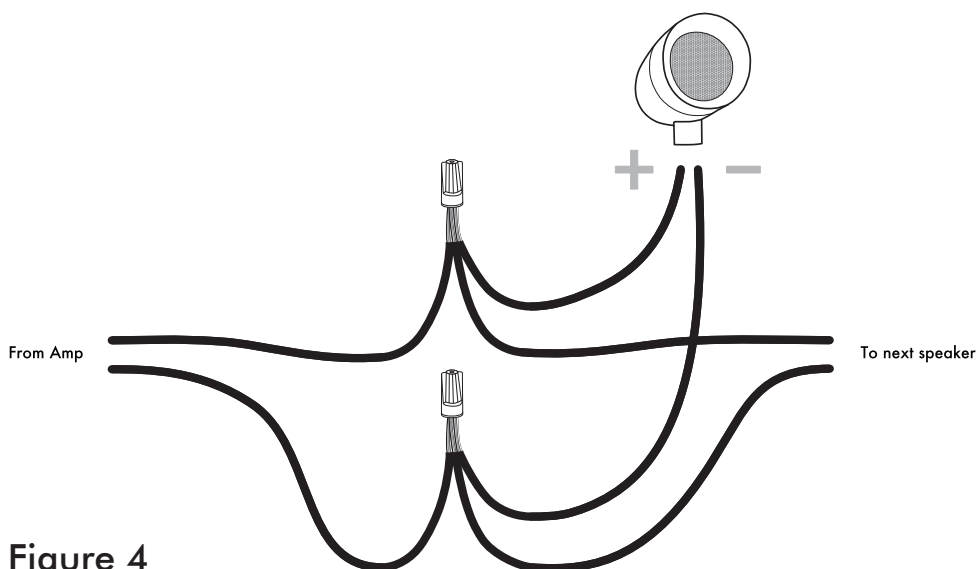

Figure 4
7. Secure the three wires together using the provided Silicone Filled Wire Nuts. (See Figure 4.)
After all satellites and subwoofer connections are completed, connect the wires to your receiver or amplifier. See Figure 2 (on page 3) & Figure 4 for reference.